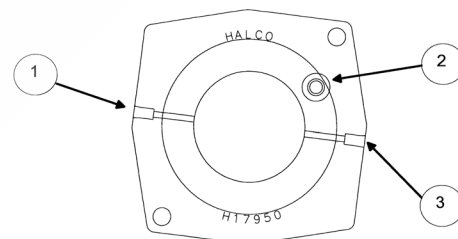

Figure 3
Also available is a lip seal. If your pump is equipped with a lip seal, the inboard bearing cover is supplied with a zerk fitting between the 9 and 10 o'clock position and a grease relief port located between the 3 and 4 o'clock position. **See Figure 3.** This is designed to create a grease barrier between the inboard lip seals. It should be greased prior to washdown and at least once a week with five (5) shots of general purpose or water pump grease. To properly grease the lip seals, first remove the grease relief port plug (3). This allows for the removal of old grease. Apply grease at the zerk fitting (1). Old grease from the seal will be forced out of the grease relief port. Replace the grease relief port plug. Bearing lubrication plug (2) is included in the drawing for clarity.